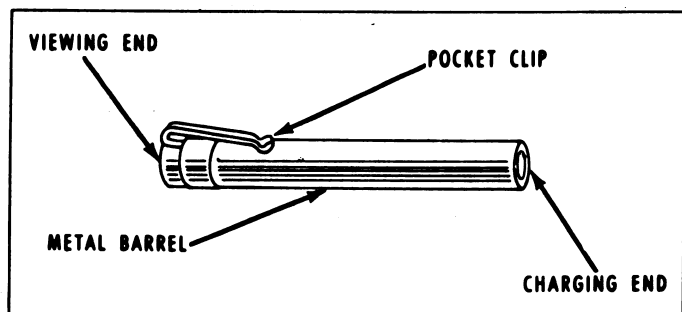

Figure 1
1. The IM93/UD and IM93A/UD are total-dose pocket dosimeters capable of indicating total exposure to radiation on a scale of 0-600 rads (fig. 1). The IM93/UD series dosimeter is designed to be carried like a ballpoint pen and will allow the soldier to determine the total amount of radiation he has been exposed to over a given period of time. It is normally distributed to a representative number of squad or platoon members to allow the commander to determine the average radiation exposure within the entire unit.